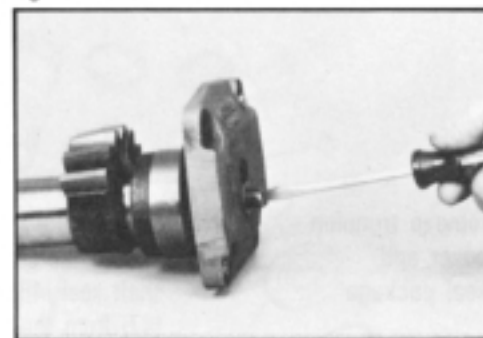

Figure 53
10. Remove jam nut (40) and screw sector shaft adjusting screw (50) out of side cover (43) and lift sector shaft (51) out of side cover. SEE FIGURE 53.